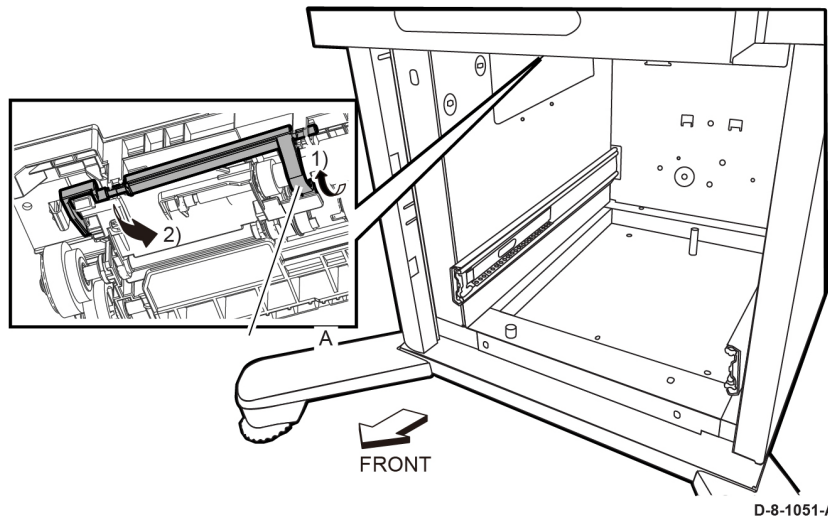

Figure 1 Releasing the feeder drawer
2. Push in the spring-loaded hatch one on each side, to remove the HCF feeder drawer, Figure 1.